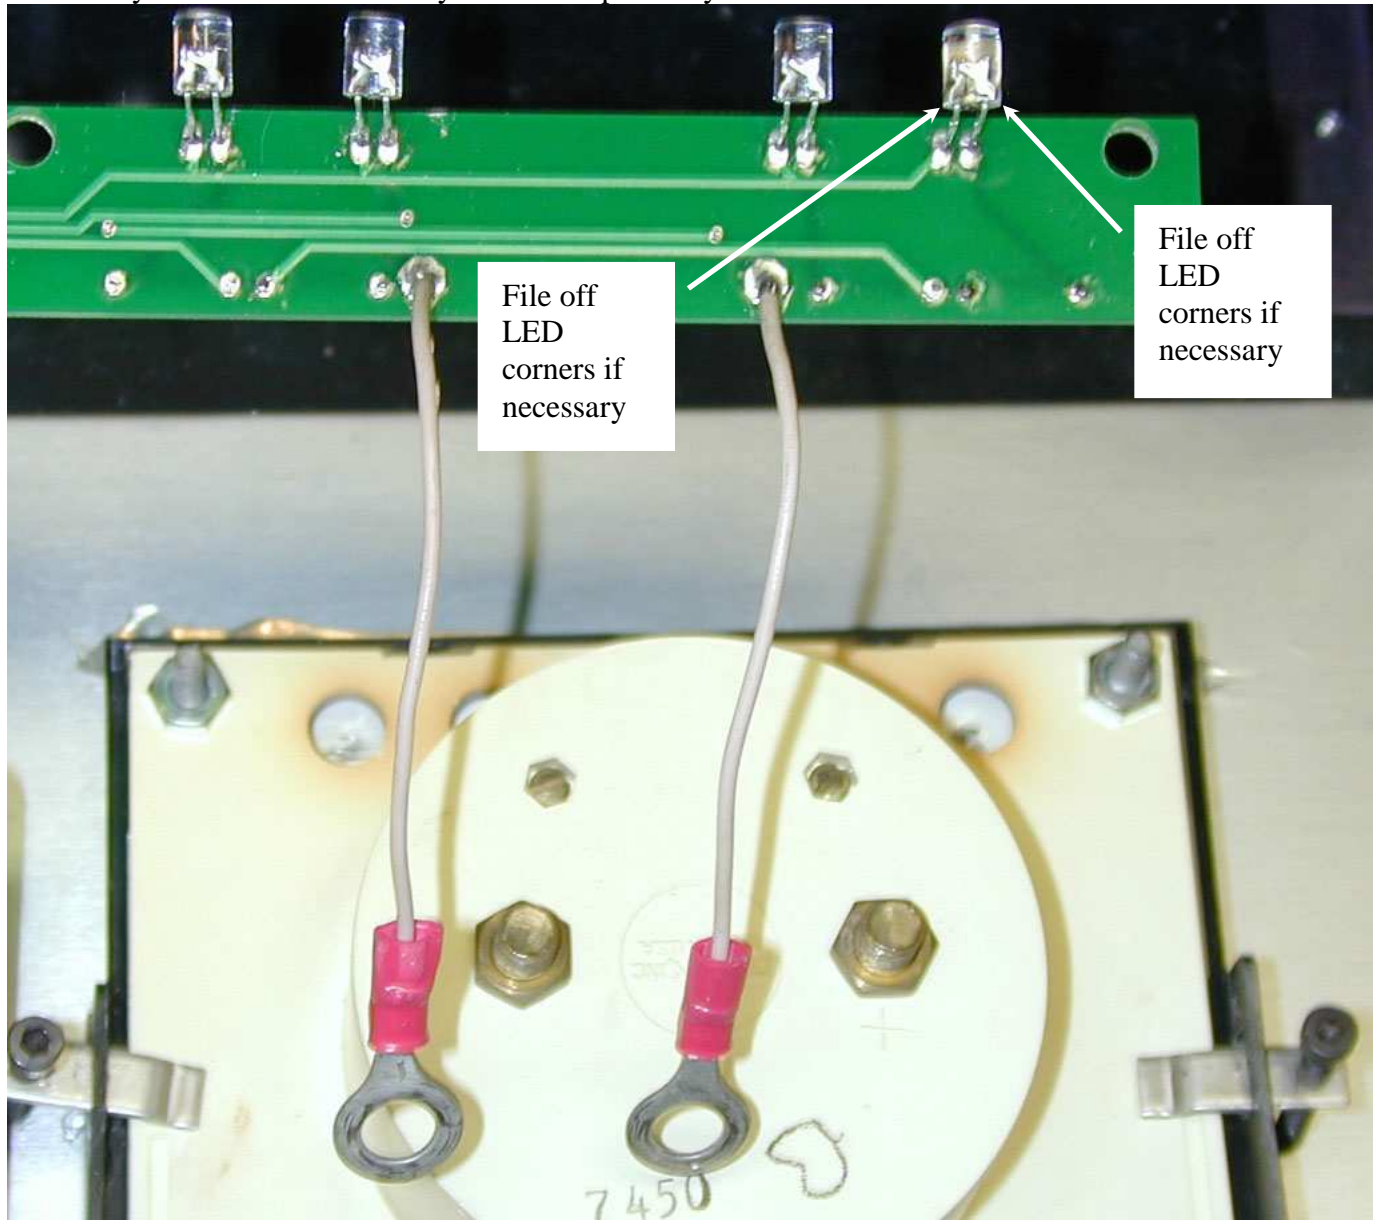

Figure 9 LED orientation and Meter Lead wires (note alternate LED part numbers may appear visually different than pictured above)
- Using your soldering station, carefully solder the 4 white meter wires to the upgrade LED Light Board at the locations labeled PAD4, PAD5, PAD6 and PAD7 as shown below in Figure 9. The instruction illustrations show these entering from the solder side (non-silkscreen side) of the board and being soldered on the component side (silkscreen side) of the board in order to mimic the assembly of the original light board. It really does not matter which side these wires are soldered on so you can reverse the entry and solder point if you desire.
- Install the four 6-32 spacer hex nuts provided with your kit on the meter studs and tighten finger tight. Two of these are shown in Figure 9. Often the meter plastic housing is brittle and discolored from the heat produced by the original incandescent light bulbs on the original light board. As a result, the plastic may be somewhat fragile. Be careful when tightening these nuts to ensure you do not damage the meter.
- Next install the new LED Light Board on top of the meter studs. Carefully guide the blue LEDs into the 4 holes in the back of each meter. Carefully make minor adjustments to the LED positioning while doing this by carefully bending the LED leads slightly. The LEDs just fit into the meter holes so be very careful when performing this assembly operation. If you cannot make the LEDs fit, file a small amount off the corner of the LED using a jeweler's file in the area indicated in Figure 9.